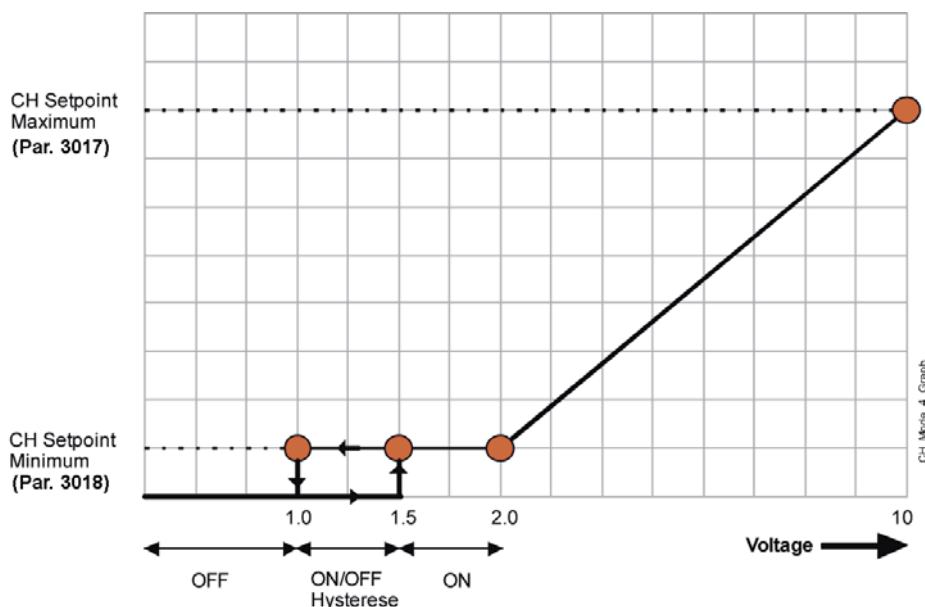
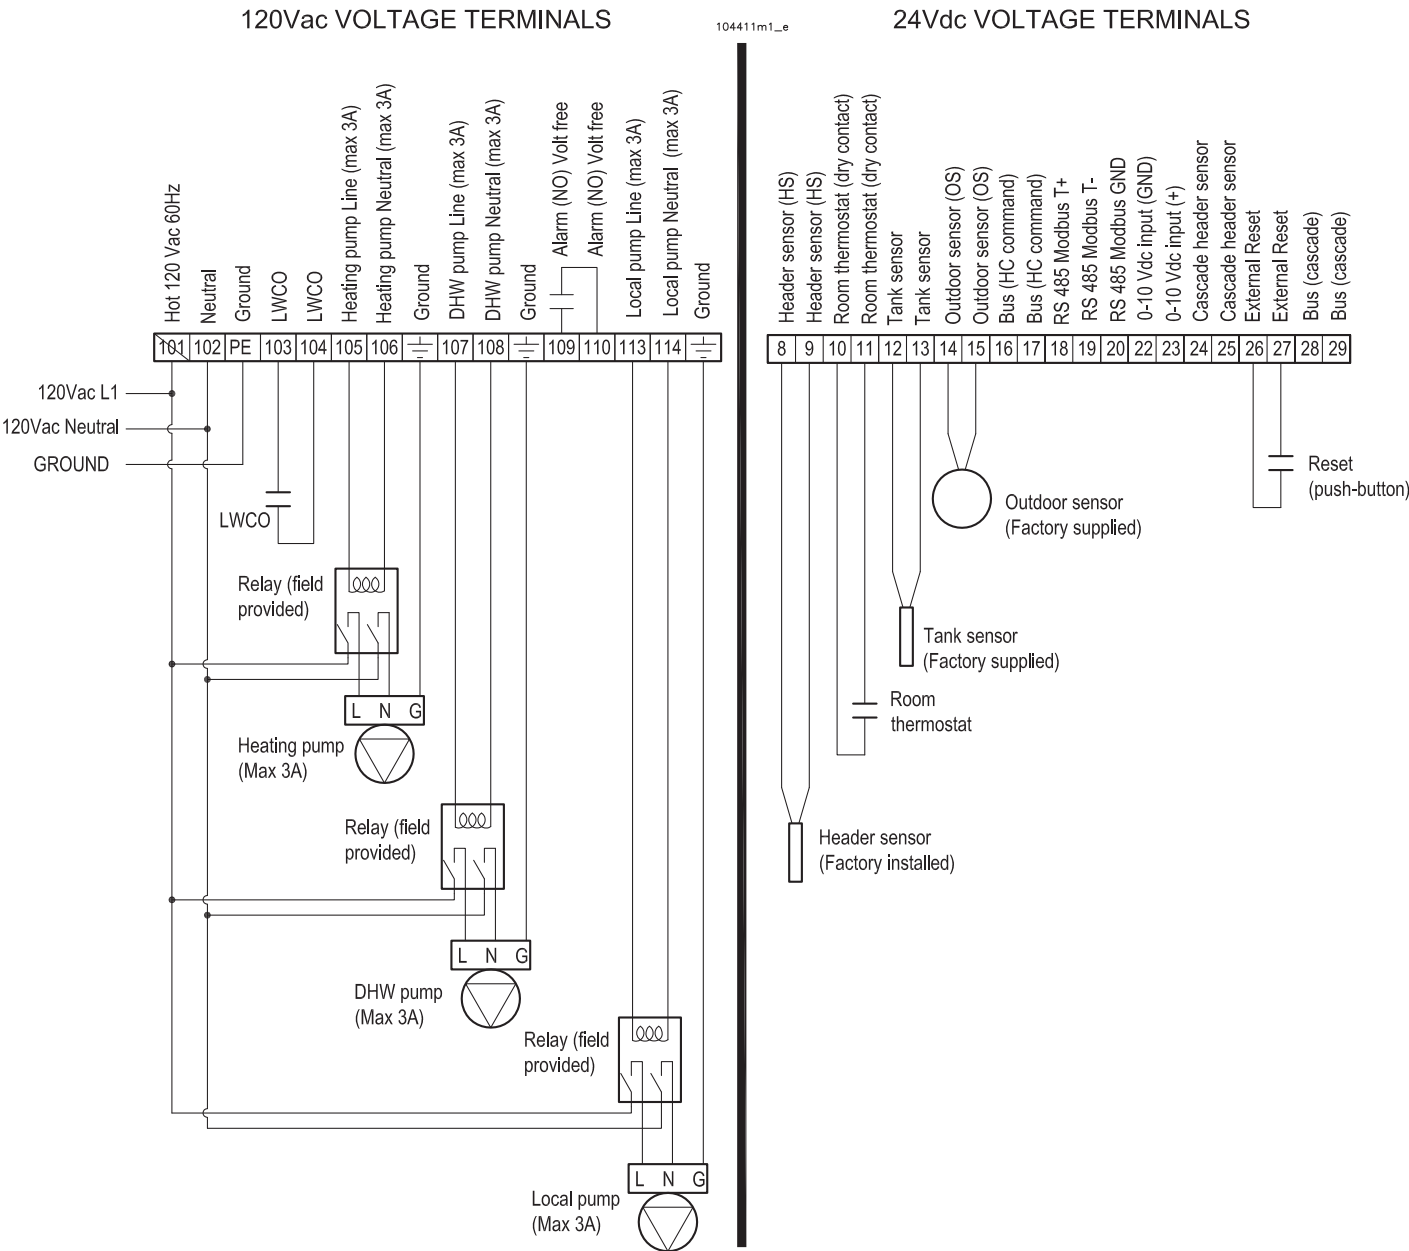

Figure 10-3 0-10Vcc analogic input algorithm
Figure 10-4 Electrical customer connection for IB boilers
3. connect the cable leads to the "10" and "11" terminals as shown in Figure 10-4.
or ventilation outlets nor directly under balconies or gutter pipes. Do not shield the outdoor temperature sensor. Do not install the sensor on walls without overhangs, or not protected from rain. Connect the outdoor temperature sensor to the boiler to terminals "14" and "15" (See figure 10-4):
This 0-10Vcc interface give you the opportunity to drive the appliance via a 0-10Vcc analogic input. To do this, you have to connect the 0-10Vcc supply between terminals 22 and 23 (see Figures 10-4 and 10-5). Also, the CH mode (parameter 2003 as per Section 14.14) must be set to 4 value. Now the heater can start to receive the analogic input 0-10Vcc and it will control the supply temperature under the rules as explained in Figure 10-3 where:
2. The indirect water heater pump (DHW pump) must be connected to terminals “107” and “108” (See Figure 10-4); a field supplied pump relay must be installed if the pump current draw is grater than 3 amps as indicated in Figure 10-4.
3. The indirect water heater temperature sensor (Tank sensor) must be connected to terminals “12” and “13” (See Figure 10-4). The sensor must be placed into the indirect water heater in a way that can detect its water temperature (Follow the indirect water heater instruction).